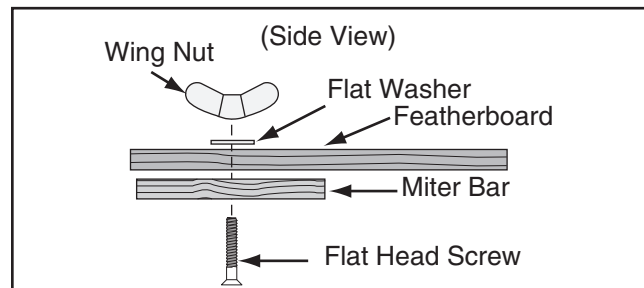

Figure 74. Assembling miter slot featherboard components.
8. Assemble the miter bar and featherboard with a $\frac{1}{4}$ "-20 x flat head screw, flat washer, and a wing nut or a star knob (see **Figure 74**). Congratulations! Your featherboard is complete.